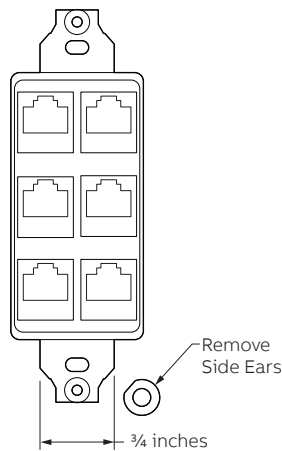

Figure 17
- 7.2 Remove all Side Mounting Ears from Data Jack Mounting Plate and trim mounting straps to $\frac{3}{4}$ " wide. (See Figure 17).